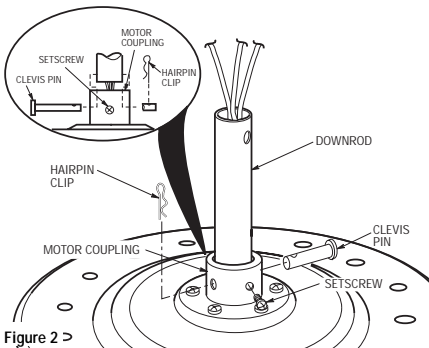

Figure 2
- 3. Remove the setscrew (Figure 2) from the motor coupling. Align the clevis pin holes in the downrod with the holes in the motor coupling. Install the clevis pin and secure with the hairpin clip (Figure 2). The clevis pin must go through the holes in the motor coupling and the holes in the downrod. Be sure to push the straight leg of the hairpin clip through the hole near the end of the clevis pin until the curved portion of the hairpin clip snaps around the clevis pin. The hairpin clip must be properly installed to prevent the clevis pin from working loose. Pull on the downrod to make sure the clevis pin is properly installed.